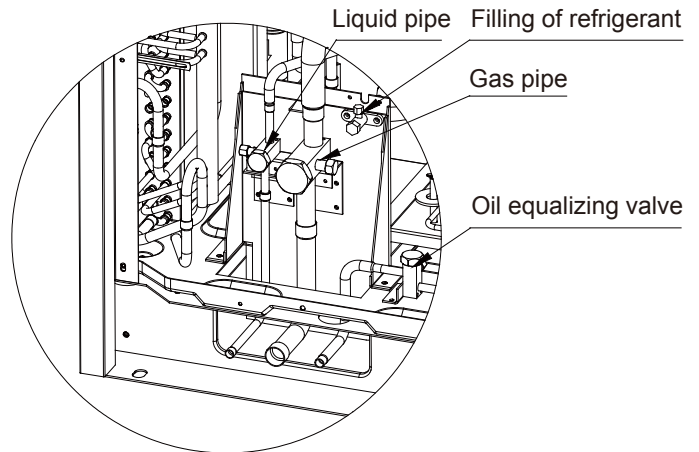

Fig.38
- (2) When there are more than 2 outdoor units, air purging from the nozzle located on the oil balance valve. Confirm outdoor oil balance valves are closed. See Fig.38.